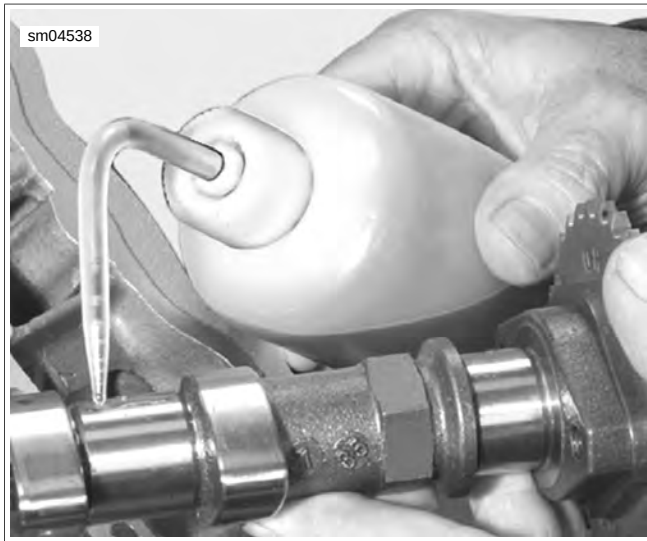

Figure 3-45. Lubricate Cam
6. See Figure 3-45. Lubricate cam journals, lobes, and tappets with GENUINE HARLEY-DAVIDSON H-D 360 20W50 MOTORCYCLE OIL. In addition, apply a thin film of SCREAMIN' EAGLE ASSEMBLY LUBE.